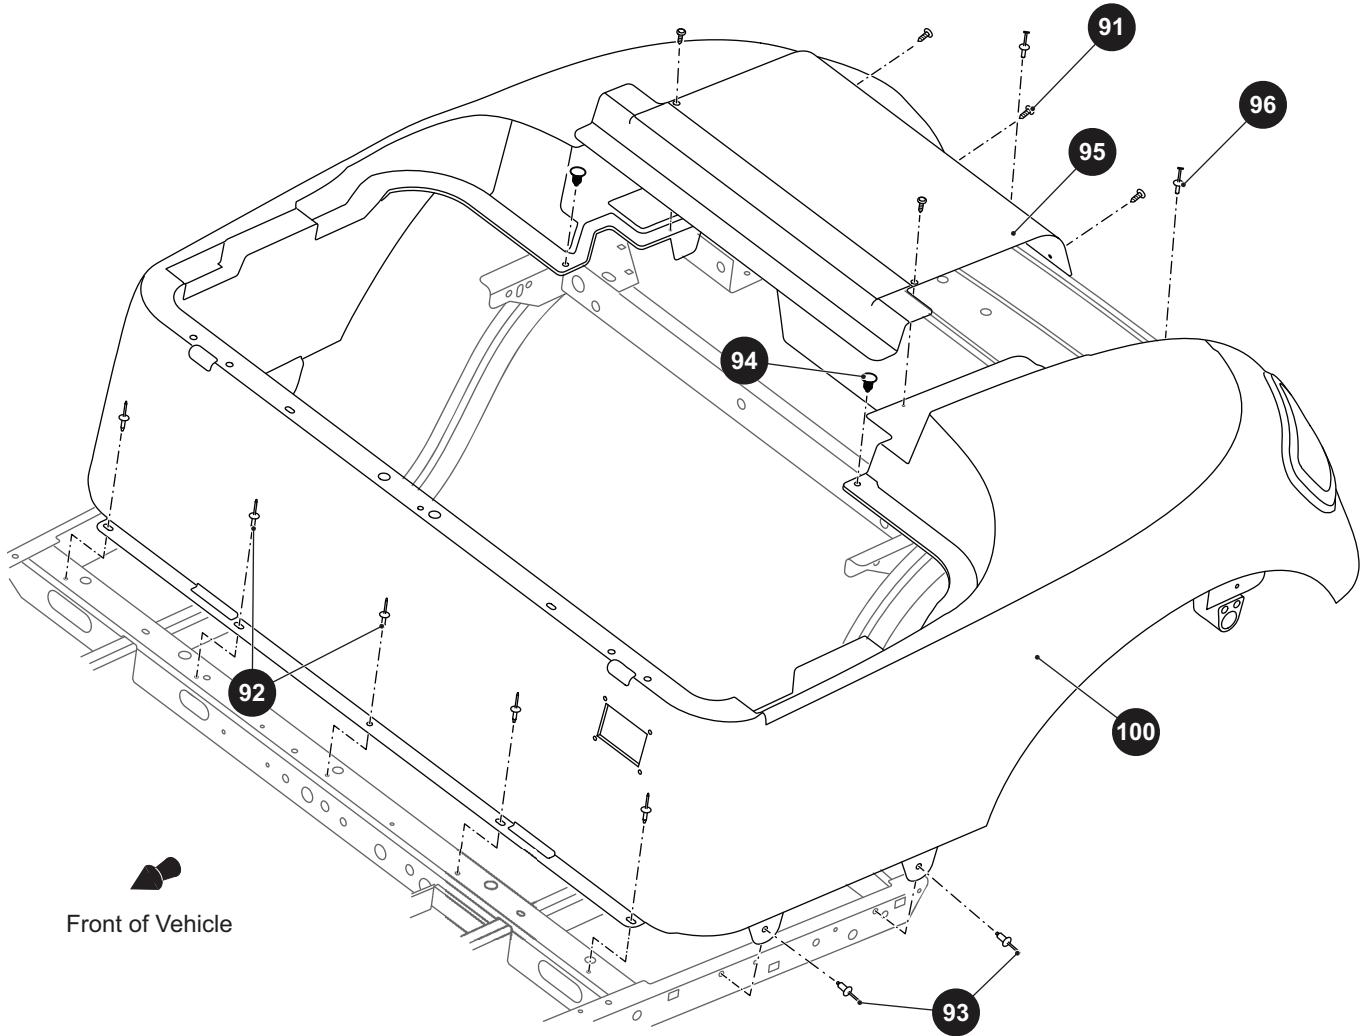

Fig. 14 Rear Body
3. Remove the screws (91) securing the access panel (95) to the rear body (100) (Ref Fig. 14).
6. Drill out the rivets (93) securing the rear body to the frame.
7. Drill out the rivets (92) securing the front of the rear body to the floor.
8. Pry out the ratchet rivets (94) securing the top of the rear body to the frame.
9. Remove the drive rivets (96) securing the rear of the rear body to the frame.